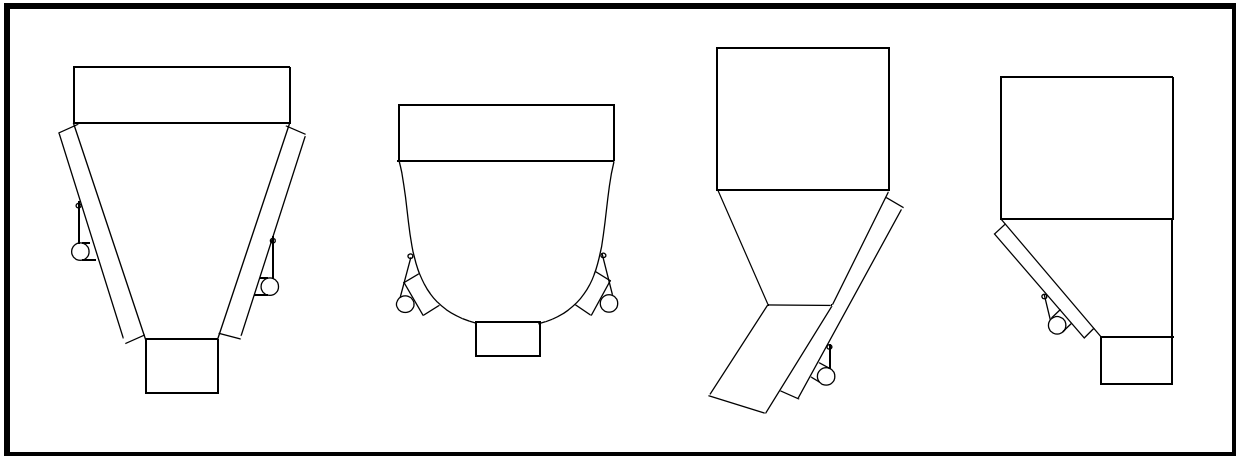

Figure 1. Locating Vibrator on Hoppers
1. See Figure 1. Locate vibrator in lower 1/4 to 1/3 of structure slope length. If second vibrator is required, mount 180° from first vibrator and halfway up slope.
- b. Locate plate so that vibrator can be positioned as shown in Figure 1.
- a. Locate beam so that vibrator can be positioned as shown in Figure 1.